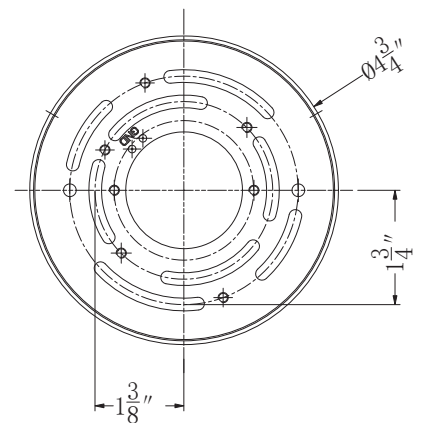

Fig.2 Wiring
CONNECTING THE WIRES (Fig. 2)
10. Connect the fixture's input wires to junction box wires as shown (Fig. 2). Make sure that all wire connectors (A) are secure. If your outlet box has a green or bare copper ground wire, connect the driver's ground wire to it. Otherwise, connect the fixture's ground wire directly to the back plate using the GND screw provided. After wires are connected, tuck them carefully inside the junction box.